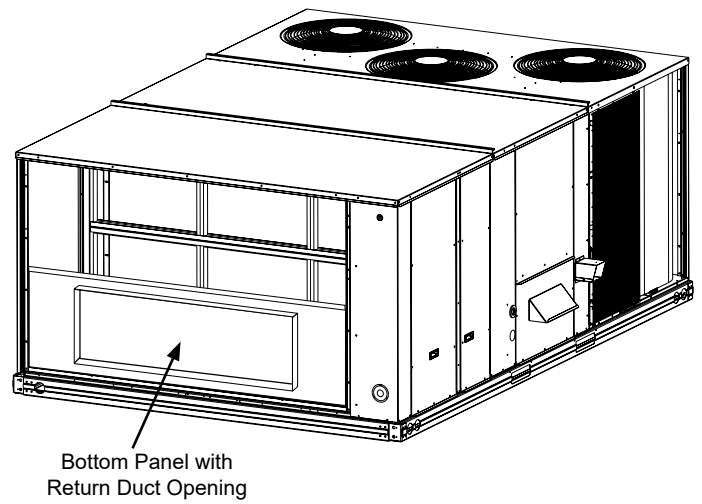

Fig. 11 - Install Bottom Panel with Horizontal Return Duct Opening
9. Install the (provided) bottom panel with the horizontal return duct opening on the unit. (See Figs 11 and 12.) Screw panel in place